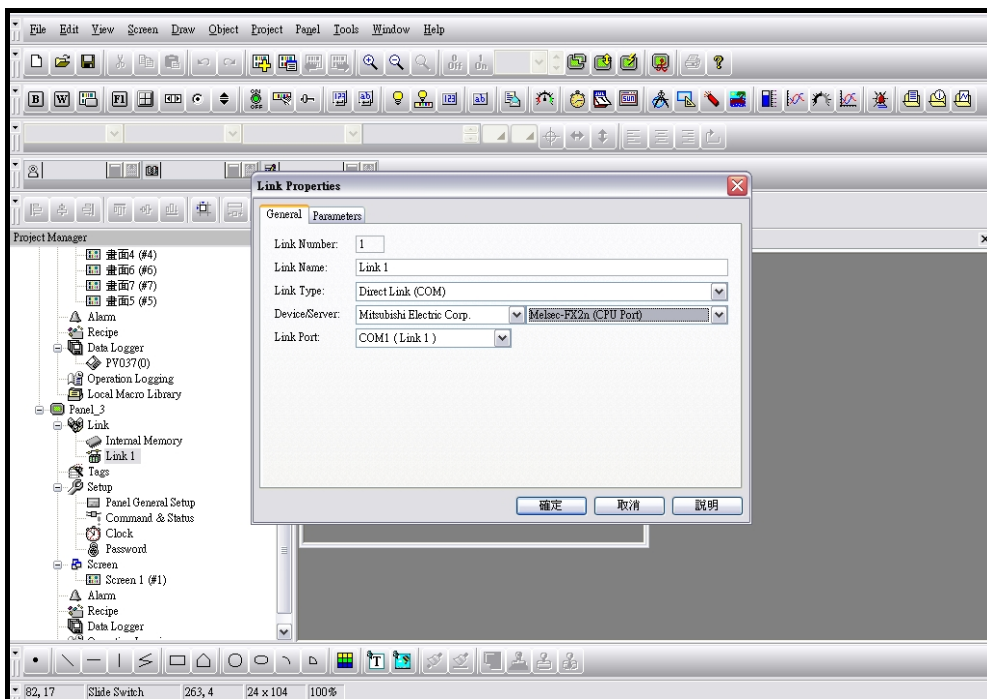

Figure 2-94 New project\_step 3\_Setting the controller the panel will link to
**Step 3 :** Click next to get a controller device settings dialogue box as shown in figure 2-94.